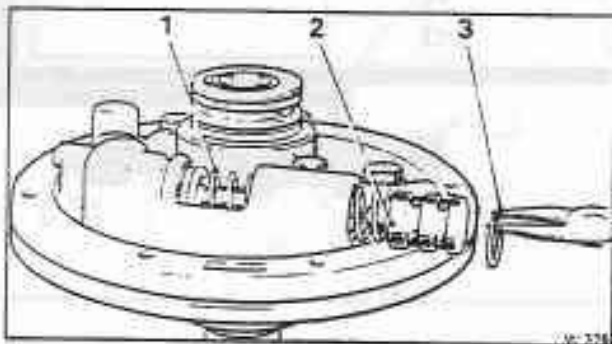

Fig. T16-3 Removing the regulator valve retaining circlip
1. Holding the pump assembly firmly on a bench, push the regulator boost valve sleeve, against spring pressure, then remove the circlip (see fig. T16-3).